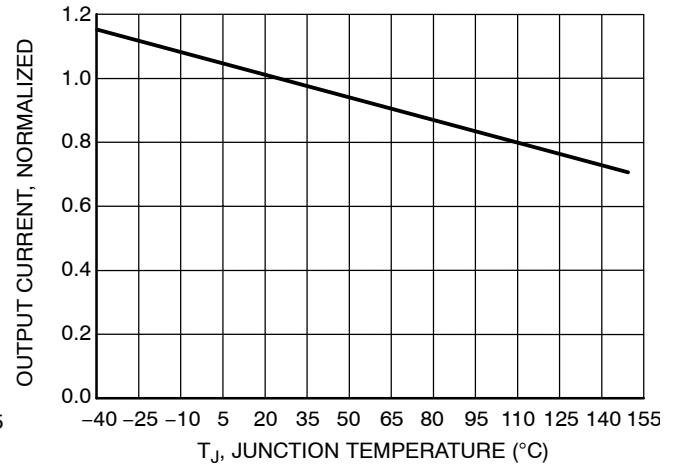

Figure 4. Current Regulation vs. Junction Temperature
10. Calculate the junction temperature using the thermal information on Page 8 and refer to Figure 4 to check the output current drop due to the calculated junction temperature. If desired, compensate it by adjusting the value of  $R_{ext}$ .
- Calculate the junction temperature using the thermal information on Page 8 and refer to Figure 4 to check the output current drop due to the calculated junction temperature. If desired, compensate it by adjusting the value of  $R_{ext}$ .